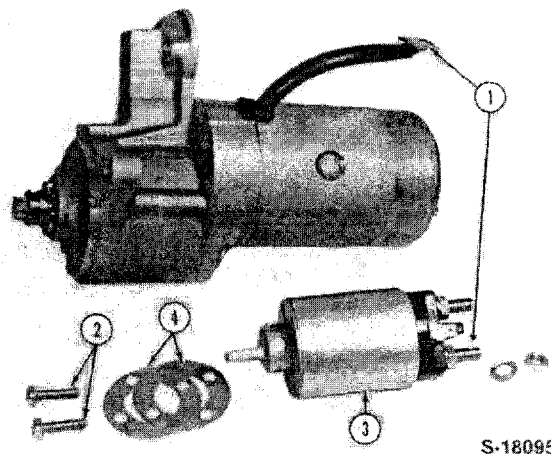

Figure 36
1. Disconnect the field coil strap (1) from the solenoid, Figure 36.
2. Remove the solenoid mounting screws (2) and remove the solenoid (3) from the front housing, Figure 36.